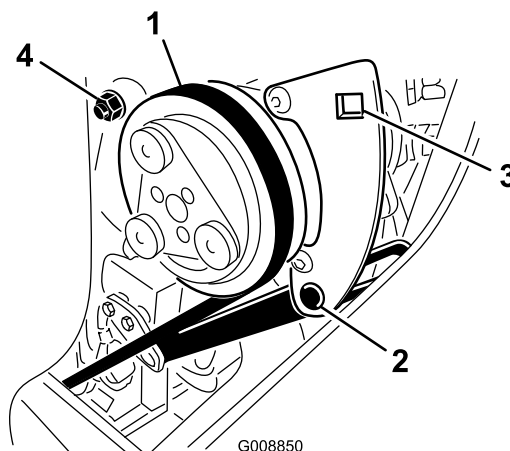

Figure 75
1. Loosen the compressor pivot bolt and adjusting bolt (Figure 75).
2. Insert a torque wrench into the square hole in the compressor bracket (Figure 75).